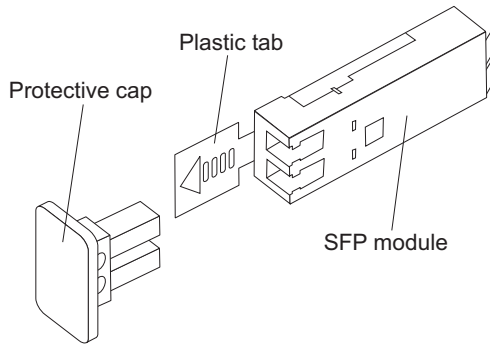

Figure 22. SFP module and protective cap
2. Remove the protective cap from the SFP module, as shown in Figure 22 on page 40. Save the protective cap for future use.
2. If necessary, remove the protective cap from the SFP module, as shown in Figure 22 on page 40. Save the protective cap for future use.